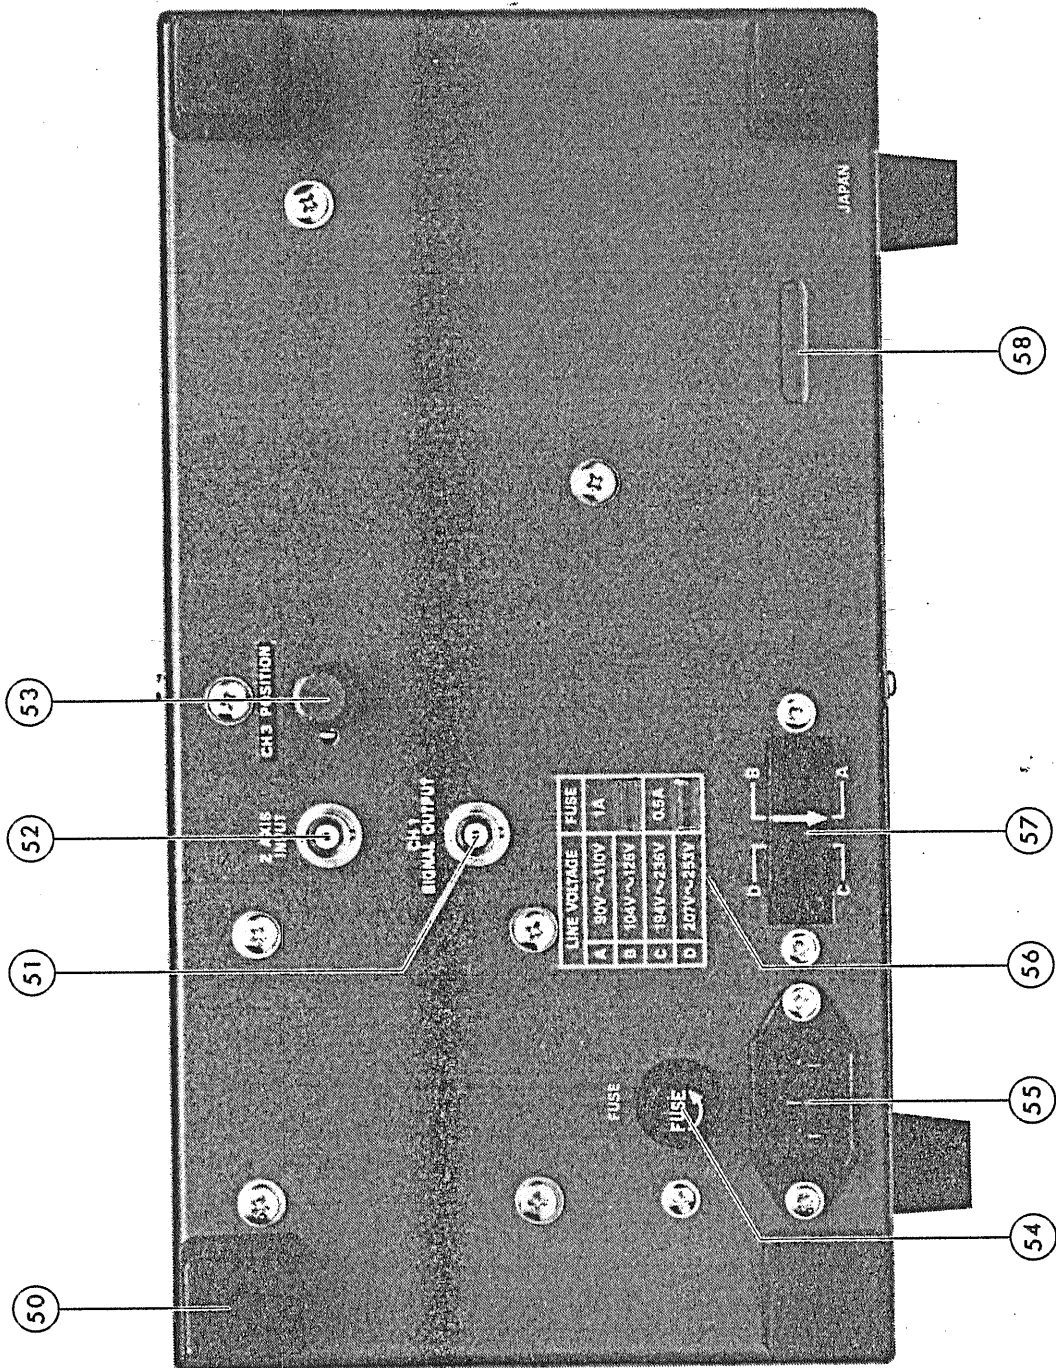

Figure 4-2
4.2 Explanation of Rear Panel (See Figure 4-2.)
- o CH1 SIGNAL OUTPUT ... (51) This output terminal provides CH1 signal which can be fed to a frequency counter, etc.
- Z AXIS INPUT (52) Input terminal for a external intensity modulation signal. Binding post terminal with 19-mm (0.75 in.) spacing.
- o CH3 POSITION (53) POSITION CONTROL for CH3, INT or EXT TRIG VIEWING.
- FUSE (54) Fuse in the primary circuit of the power transformer. Fuse rating is as shown in the AC line voltage table (56) on the instrument rear panel.
- AC power input connector (55) Input connector of the AC power of the instrument. Connect the AC power cord (supplied) to this connector.
- AC voltage selector plug (57) For selecting the AC voltage of the instrument in conjunction with selector connector, as indicated with A, B, C, D symbols referenced to the AC line voltage table (56) on the instrument rear panel.
- (58) This is the production number to identify which instruments were produced in the KIKUSUI factory. Please notify this number if you need our SERVICE.